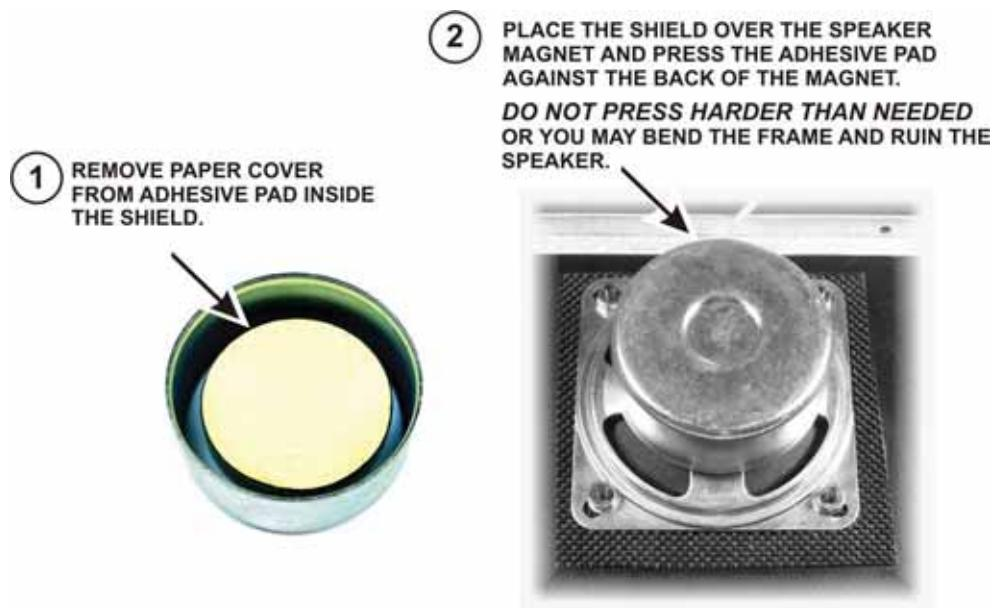

Figure 77. Installing Speaker Magnet Shield.
- Install the shield over the speaker magnet as shown in Figure 77.